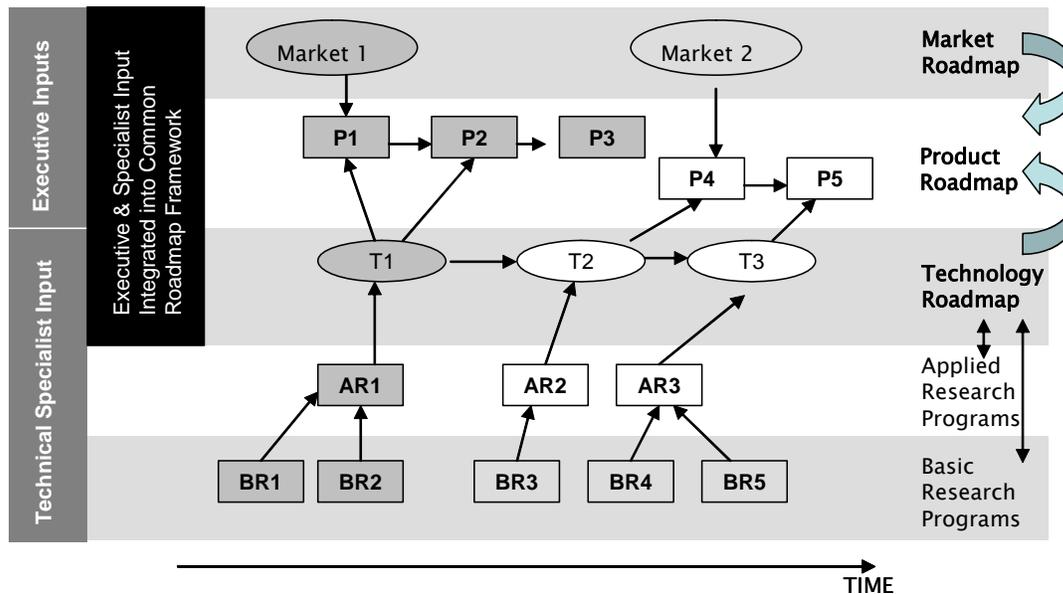

Figure 1: Roadmapping Captures Both Strategic and Tactical Aspects
When we refer to roadmaps we are often speaking of a *set of roadmaps* rather than a single effort. In Figure 1 we see a composite roadmap that captures in a single graphic activities and issues that are happening across several silos within a traditional organization. Here we see that basic research programs roll up into applied research programs that support specific technology solutions. Note that the BR and AR programs feed into the Technology platforms (T) and technology roadmap in terms of time. This is to insure that the technology is ready for the product when it is needed – in essence managing any technology that might be on the critical path.
Though there are multiple forms that roadmaps can take, there are some common traits. First, in roadmapping, companies are seeking to decompose complex systems into subsystems and ultimately into elements. It is the elements that are represented on the roadmap. In this way, the elements can change individually and we can see the impact that an element change will have on the outcome and/or timing of the more complex system. When the complex systems are decomposed, it is often done along functional lines. In Figure 1, for example, the information is organized in functional layers such as marketing and technology, with technology further subdivided into basic and applied.¹